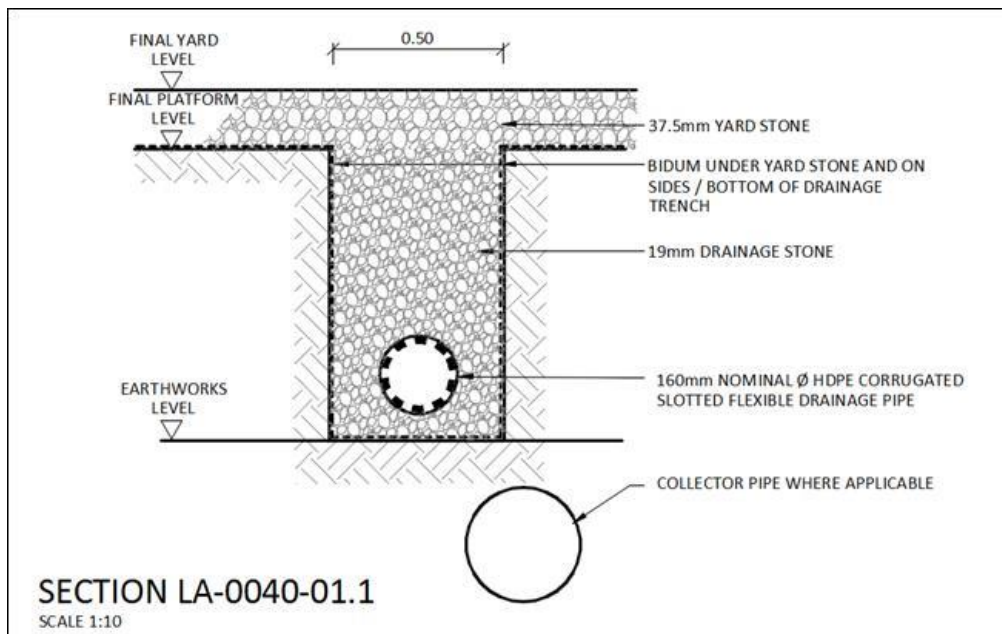

Figure 23: Typical Subsoil Detail
- Figure 23: Typical subsoil detail.